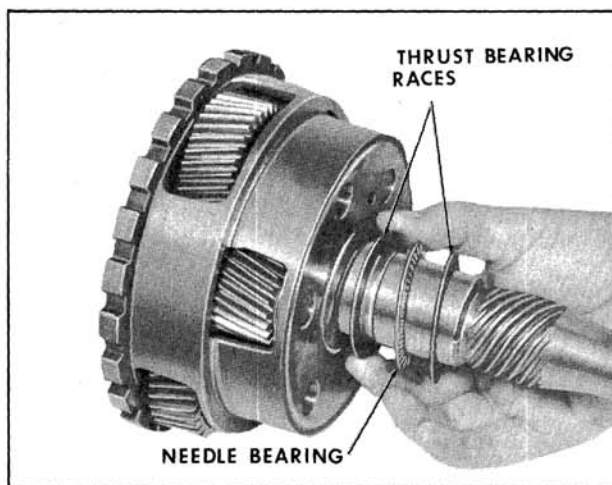

Fig. 6-376 Removing Planetary Gear Thrust Bearing
2. Remove needle bearing and two bearing races from rear of planet carrier. (Fig. 6-376)